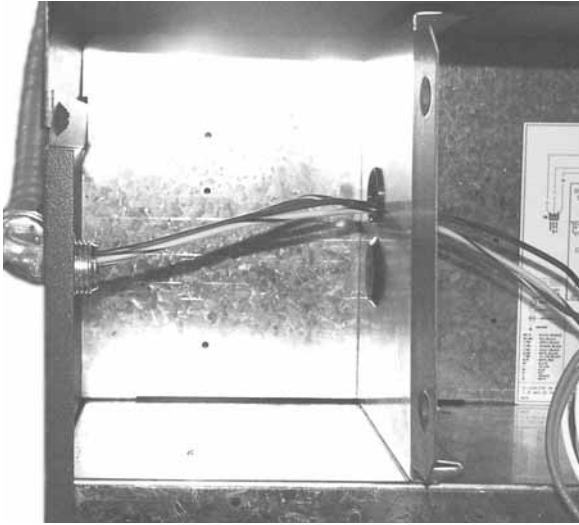

Fig 17
19. Route the 24 VAC harness through the 7/8" grommet, See Fig. 17.